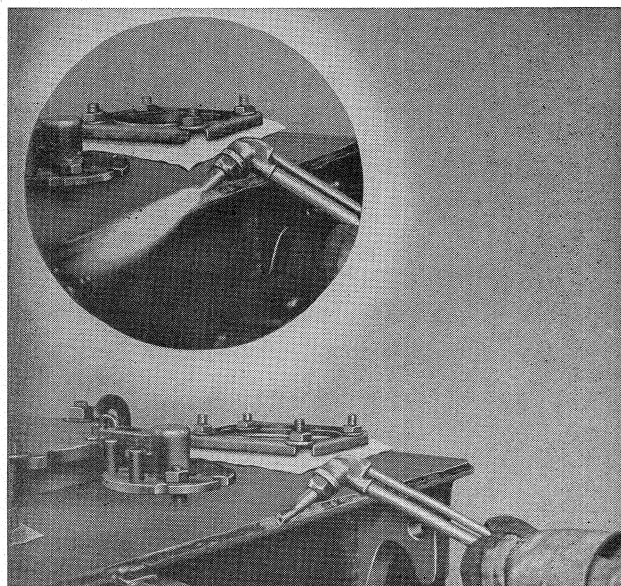

FIG. 5. Removing Weld by Gas Torch
3. Use on Oxweld #13, Style 1511 tip, directing the flame in the direction of the weld as shown in Fig. 5.